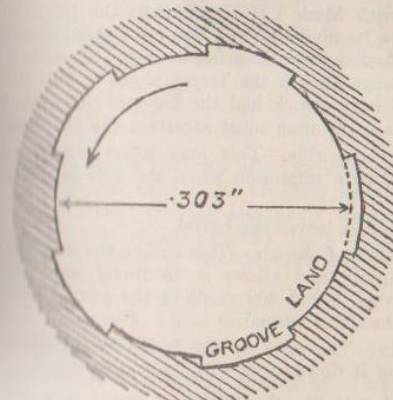

FIG. 1.
3. Rifling—A barrel is said to be rifled when it has spiral grooves cut into the bore (See Fig. 1).